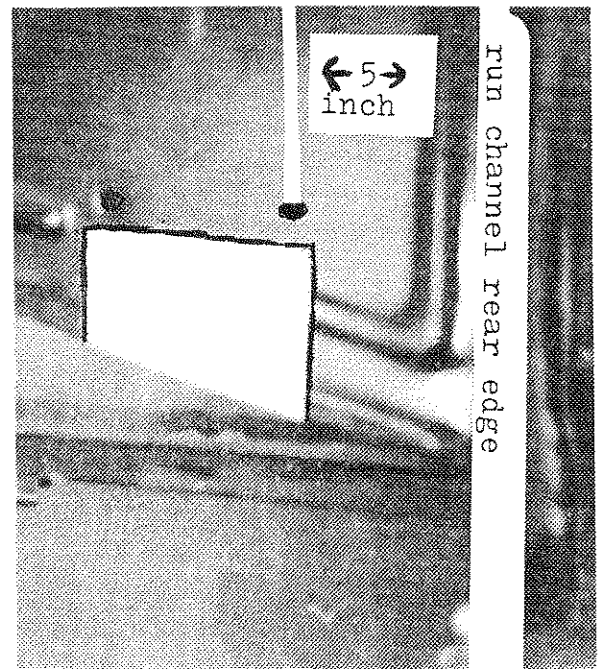

Fig. 8
16. Some cars will require cutting an area shown in (Fig. 8) to mount brackets for quarter glass regulators.